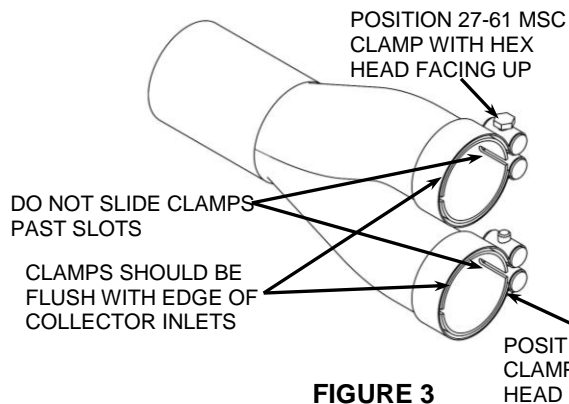

FIGURE 3
12. Position the supplied #27-61 MSC clamps with hex head facing the direction shown in **FIGURE 3** and slide them onto the collector inlets.
16. Secure the muffler assembly to the exhaust mount bracket using the (2) supplied 5/16"-18 bolts but **DO NOT TIGHTEN**.
17. Make sure the muffler assembly, collector, front headpipe, and rear headpipe are aligned properly and tighten in the following order; headpipe flanges to the cylinders (slowly tightening opposing nuts), front headpipe/collector clamp, rear headpipe/collector clamp, muffler clamp, and finally the muffler to the exhaust mount. (NOTE: The muffler clamp and headpipe clamps should be flush with the end of the inlets when tightened. See **FIGURE 3 & 4**. If the clamps are slid past the slots on the inlets the clamps will not tighten properly).